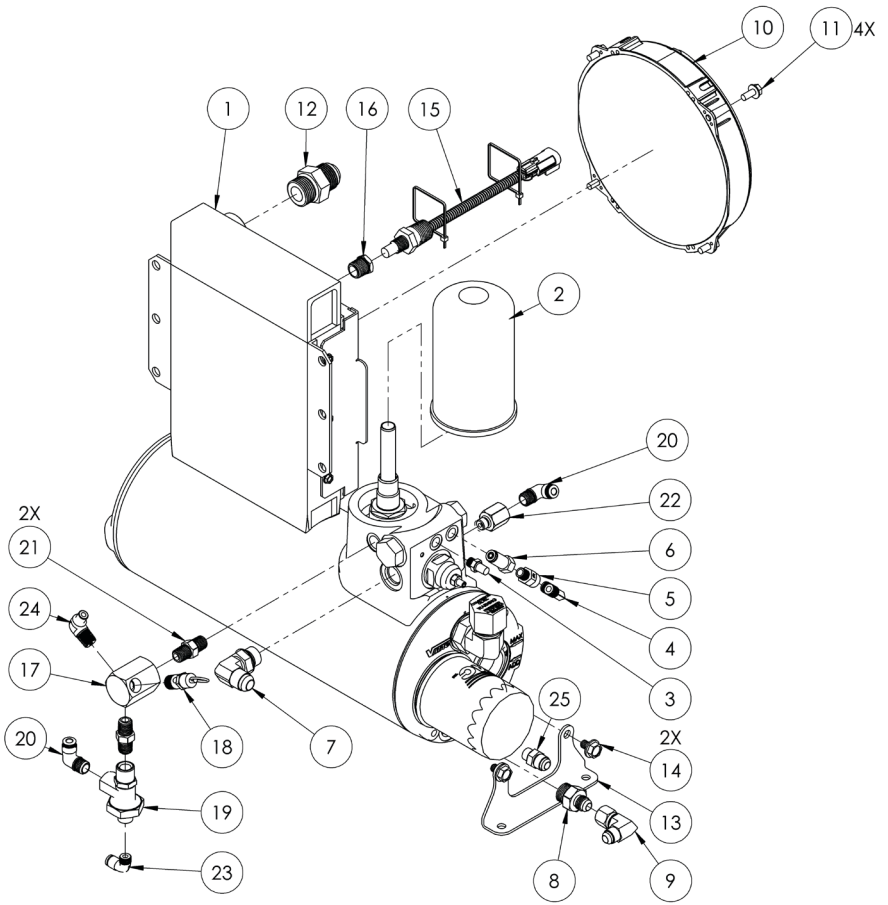

Figure 80 — WHASP Tank
4. WHASP Tank, 2110109 (Figure 80 on page 111)